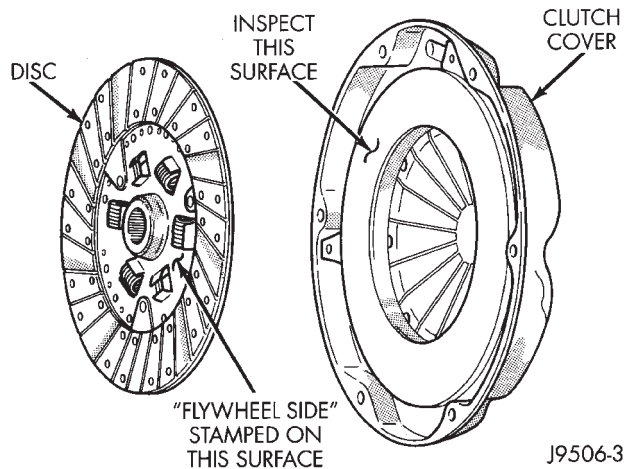

Fig. 4 Clutch Disc And Pressure Plate Inspection
(1) Remove transmission. Refer to procedures in Group 21.
(2) If original clutch cover will be reinstalled, mark position of cover on flywheel for assembly reference. Use paint or a scribe for this purpose.
(3) If clutch cover is to be replaced, cover bolts can be removed in any sequence. However, if original cover will be reinstalled, loosen cover bolts evenly and in rotation to relieve spring tension equally. This is necessary to avoid warping cover.
(4) Remove cover bolts and remove cover and disc (Fig. 4).
(4) Position clutch disc on flywheel. Be sure side of disc marked flywheel side is positioned against flywheel (Fig. 4). If disc is not marked, be sure flat side of disc hub is toward flywheel.
(5) Inspect condition of pressure plate surface of clutch cover (Fig. 4). Replace cover if this surface is worn, heat checked, cracked, or scored.
(7) Insert alignment tool in pilot bearing and position disc on flywheel. Be sure disc hub is positioned correctly. Side of hub marked Flywheel Side should face flywheel (Fig. 4). If disc is not marked, place flat side of disc against flywheel.